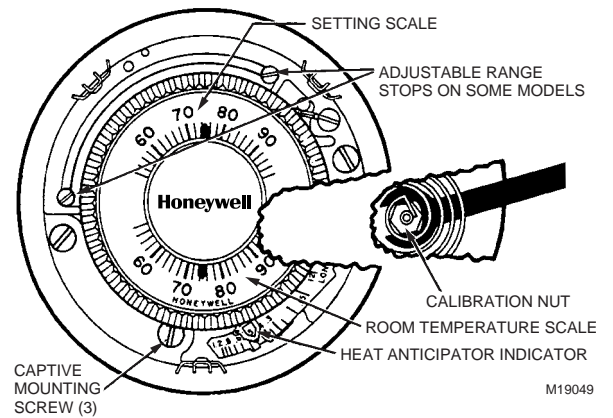

Fig. 14. T87F interior detail.
On models with range stops the temperature range may be limited at either extreme. The left stop is for the low extreme, the right stop for the high extreme (see Fig. 14).
2. Slip the 104994 Calibration Wrench (available on request) onto the hex under the bimetal coil (see Fig. 14).